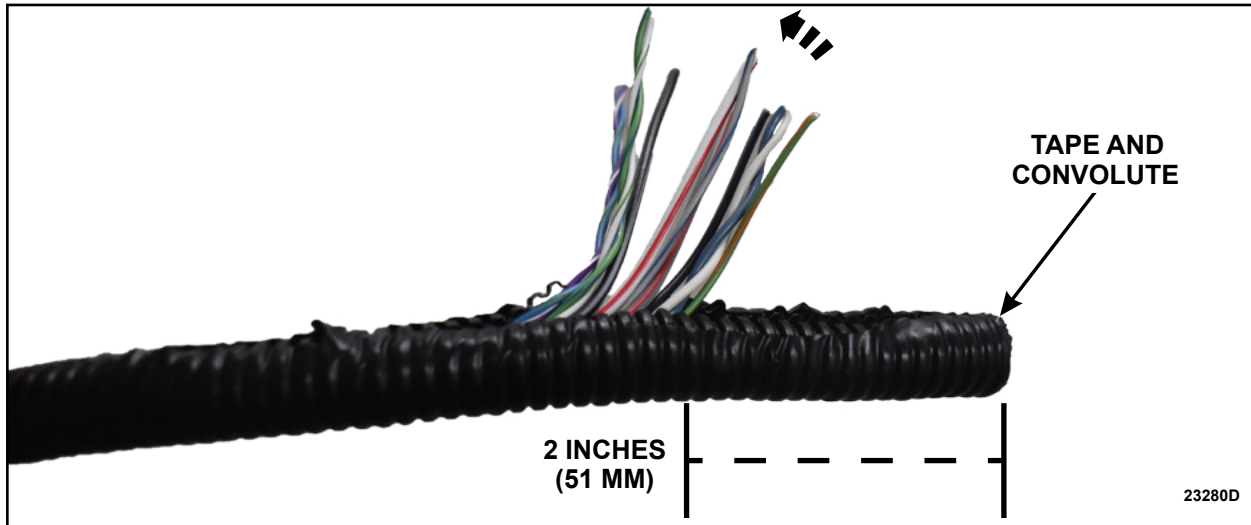

FIGURE 2
4. Remove 2 inches (51mm) of tape and convolute from the cut end of the wire harness. See Figure 2.